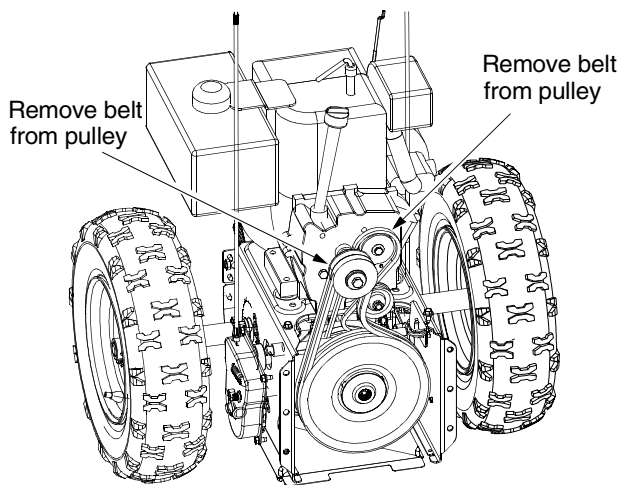

Figure 17
- Remove the two belts from the two engine pulleys. For location of the belts, see Figure 17.